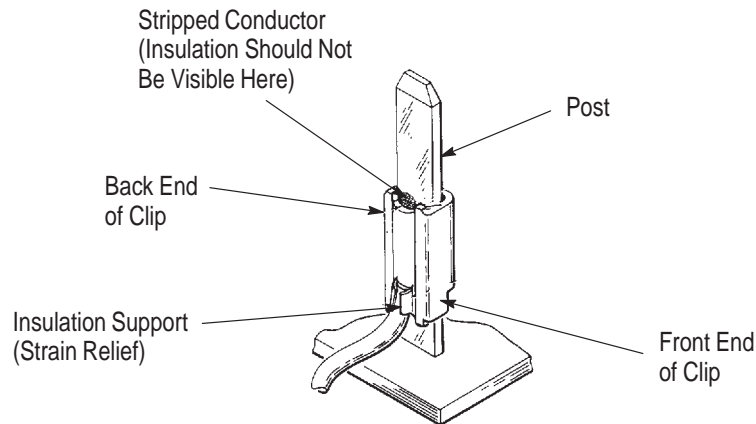

Figure 10
5. Remove the tool from the post. A properly terminated post should appear as shown in Figure 10. Be certain that stripped conductor, *not* insulation, is visible at the back end of the clip.